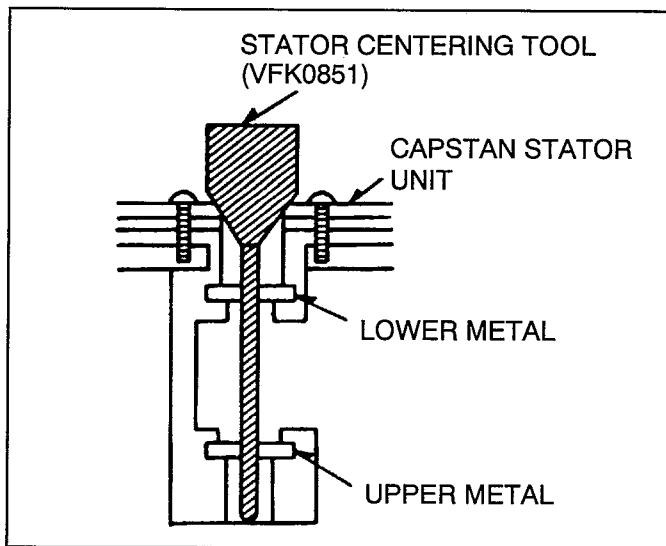

Fig. S13-2
- 3) Insert the Stator Centering Tool (VFK0851) as show in Fig.S13-2.